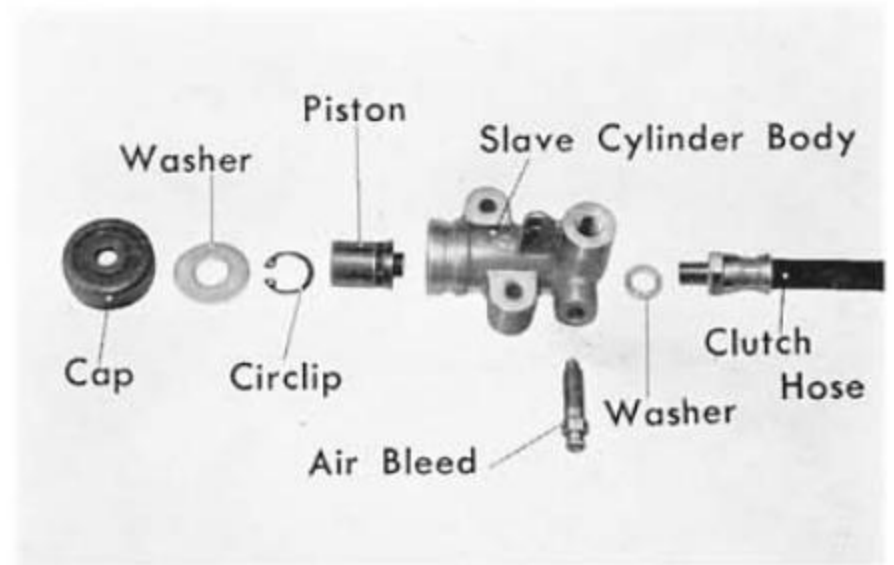

Fig. 5A-2
3. Inspect the condition of the piston, cylinder and measure the piston to cylinder clearance (Fig. 5A-3).